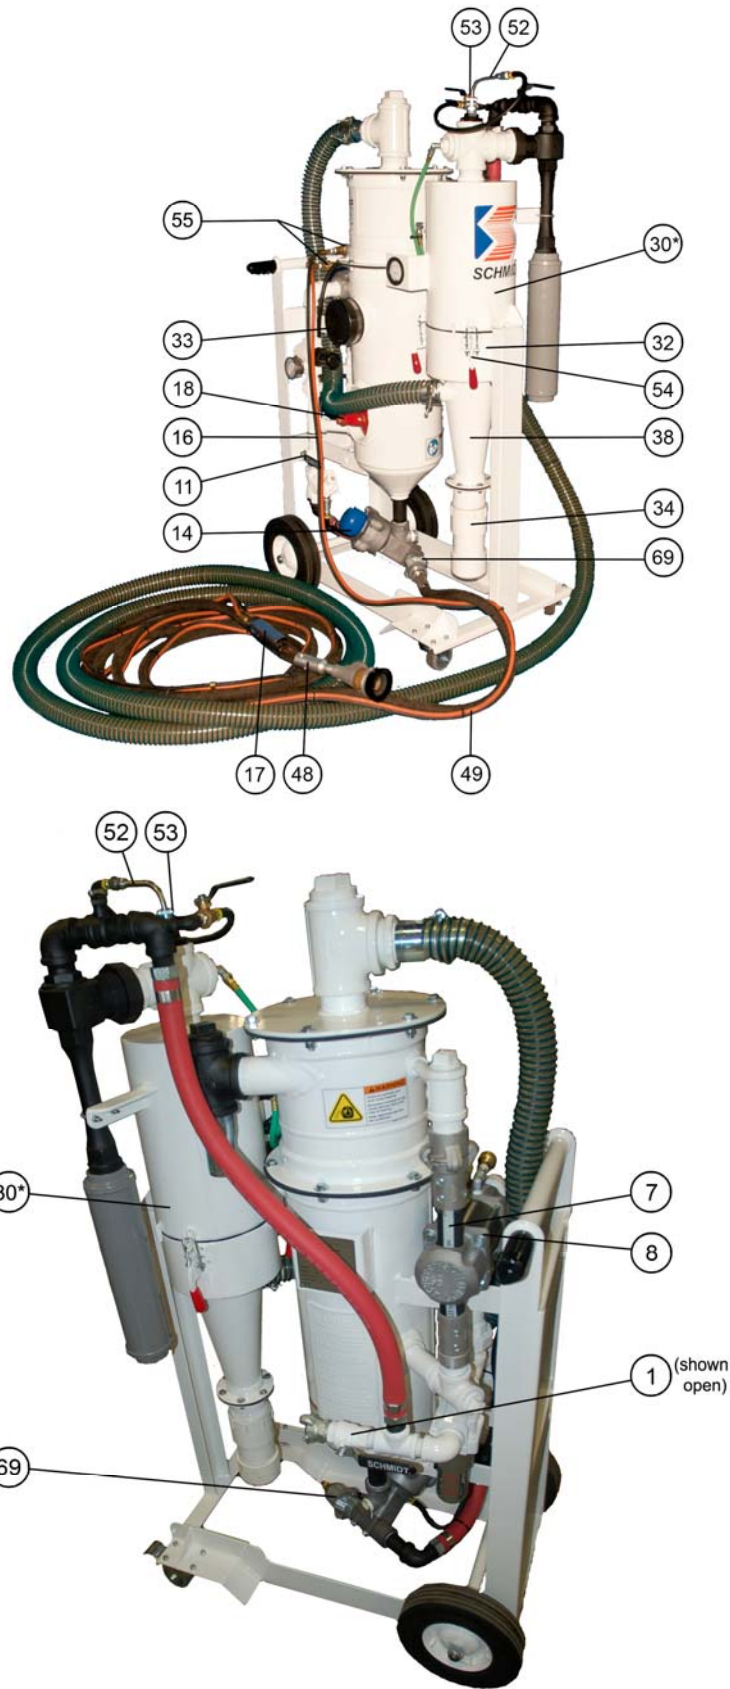

Figure 6.1 – Typical MINIBRS Abrasive Blaster
6.1 MINIBRS Abrasive Blaster Setup Procedure (see Figure 6.1)
- 6.2.2. The MINIBRS abrasive blast system will automatically depressurize when the deadman lever (#17) is released. The blast vessel air pressure will exhaust through the blowdown hose (#7) and into the reclaim hopper. See Figure 6.1.